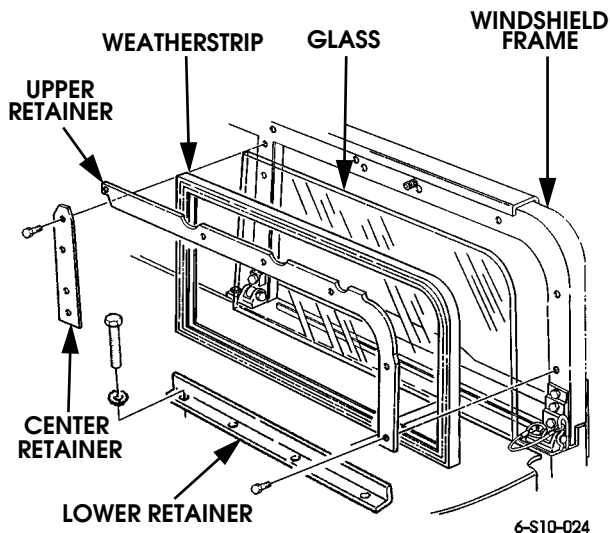

Figure 10-103: Windshield Glass Replacement
2. Remove six bolts and upper retainer from windshield frame (Figure 10-103).
1. Apply a 1/8 in. (3-mm) bead of sealing compound to edge of glass and windshield frame (Figure 10-103).